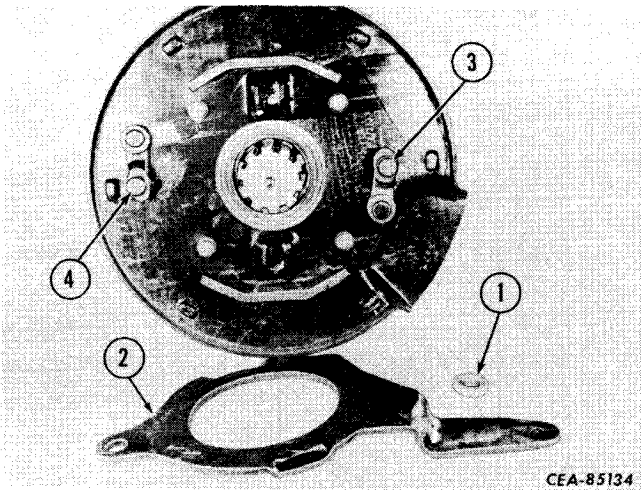

Figure 13-104
Remove the operating cam lever (2, Fig. 13-104) and roller (1) from the pawls (3 and 4) on the backing plate.